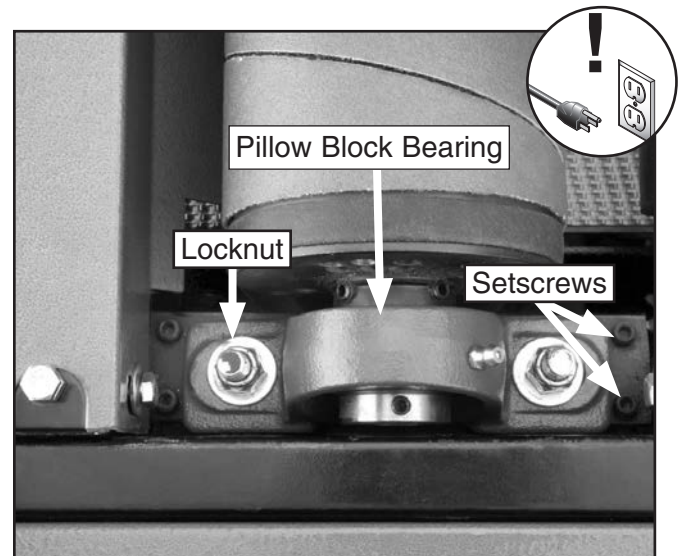

Figure 31. Pillow block bearing adjustments.
3. Loosen the lock nuts (see **Figure 31**) on the drum pillow block bearing.
- Loosen the lock nuts (see **Figure 31**) on one of the pillow block bearings that requires adjustment.
- Rotate the setscrews $\frac{1}{8}$ of a turn clockwise to raise the pillow block bearings (see **Figure 31**).